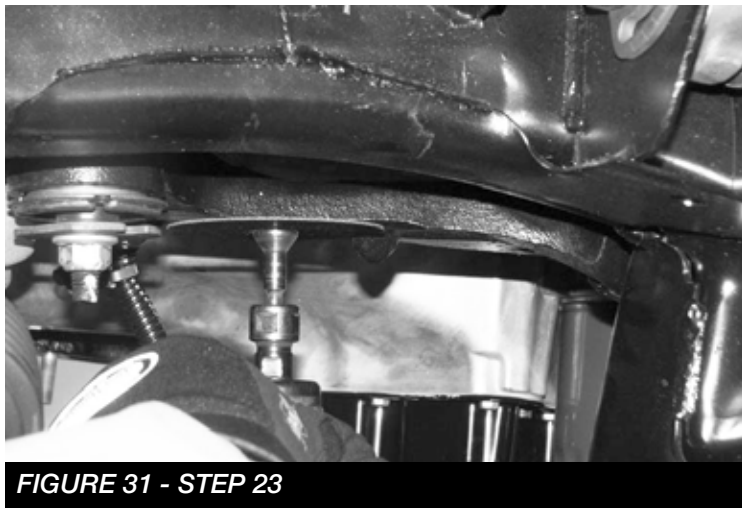

FIGURE 29 - STEP 20
20. Disconnect the front driveshaft from the differential housing and retain bolts and u joint clamps for reinstallation. **SEE FIGURE 29**